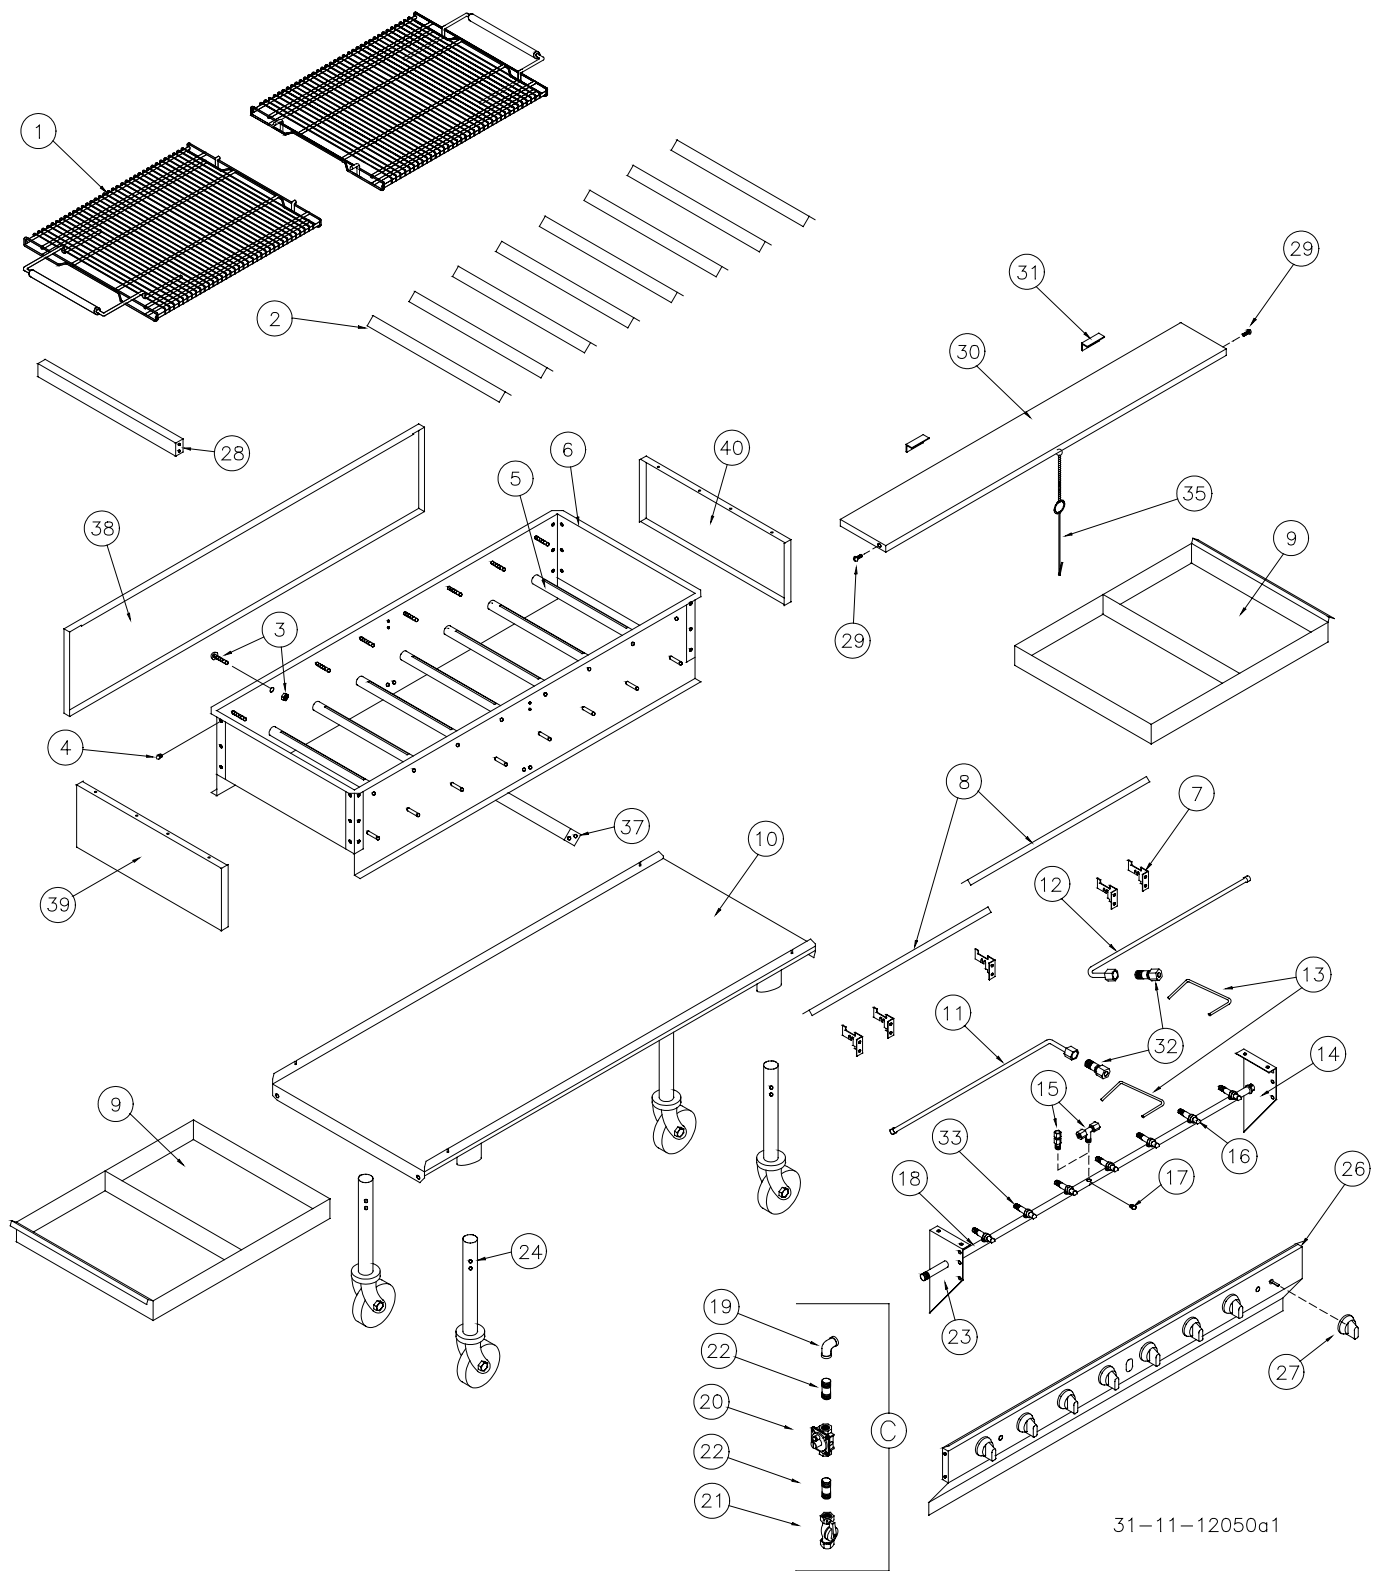

Figure 3
- Check periodically that the burners are fitted properly on the orifices (see burner & orifice inspection illustration, Figure 3, Page 10), or if there is a performance problem.
- A. Remove the service shelf by removing the two screws at the ends (29).
- B. Slide service shelf (30) forward and then lift it off the unit.
- C. The front of the burners, the valve bodies, and orifices are now exposed for inspection. Looking down into the unit, compare these components with the diagram above (Figure 3).